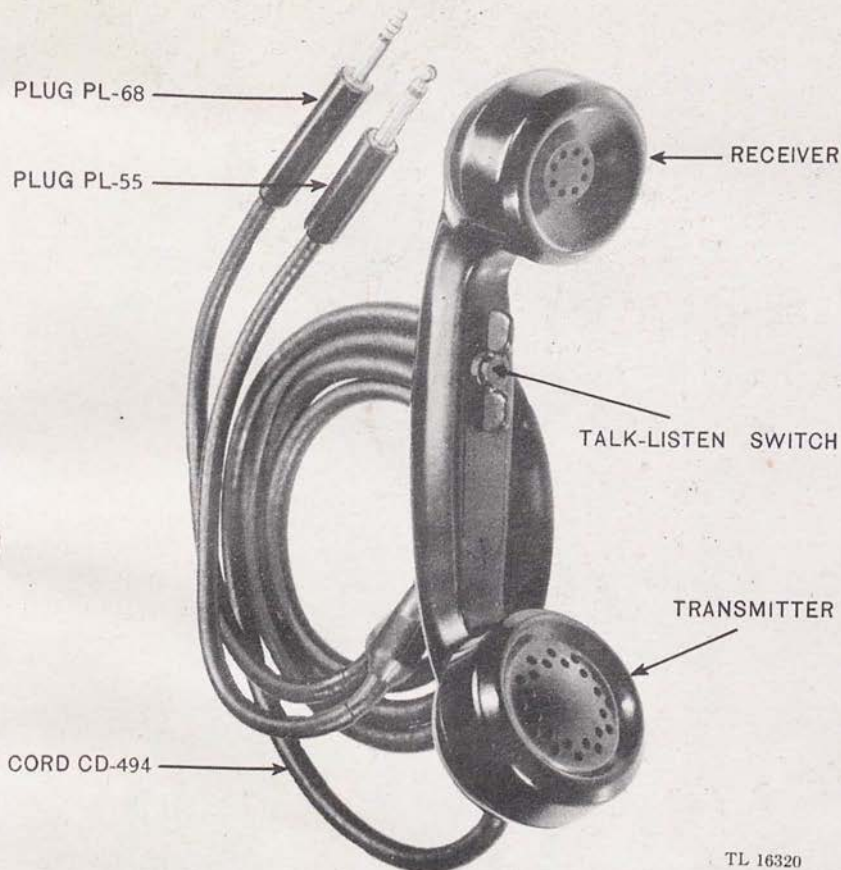

Figure 8. Handset TS-13-().
l. Handset TS-13-() (figs. 8 and 11). This handset consists of a microphone, which converts the acoustical power of the voice of the operator into electrical energy, and a receiver which converts the audio power output of the amplifier into audible sound. A butterfly press-to-talk switch is located on the handle to complete the microphone circuit. Cord W-11 is attached to the handset. This cord terminates in Plug PL-55 (P-3) which is connected to jack J-2 on the control unit panel, or to jack J-3 on extension cord W-10, and Plug PL-68 (P-1) which is connected to jack J-8 on the control unit panel or to jack J-9 on extension cord W-10.